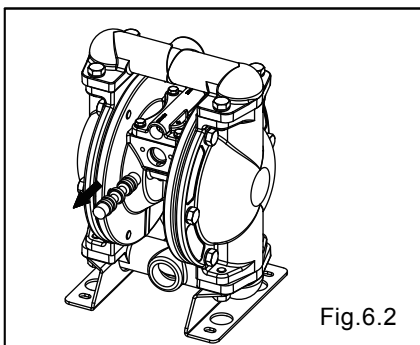

Fig.6.2
- Remove the spool valve assembly, and remove the seal rings from the spool valve assembly.[Fig.6.2]